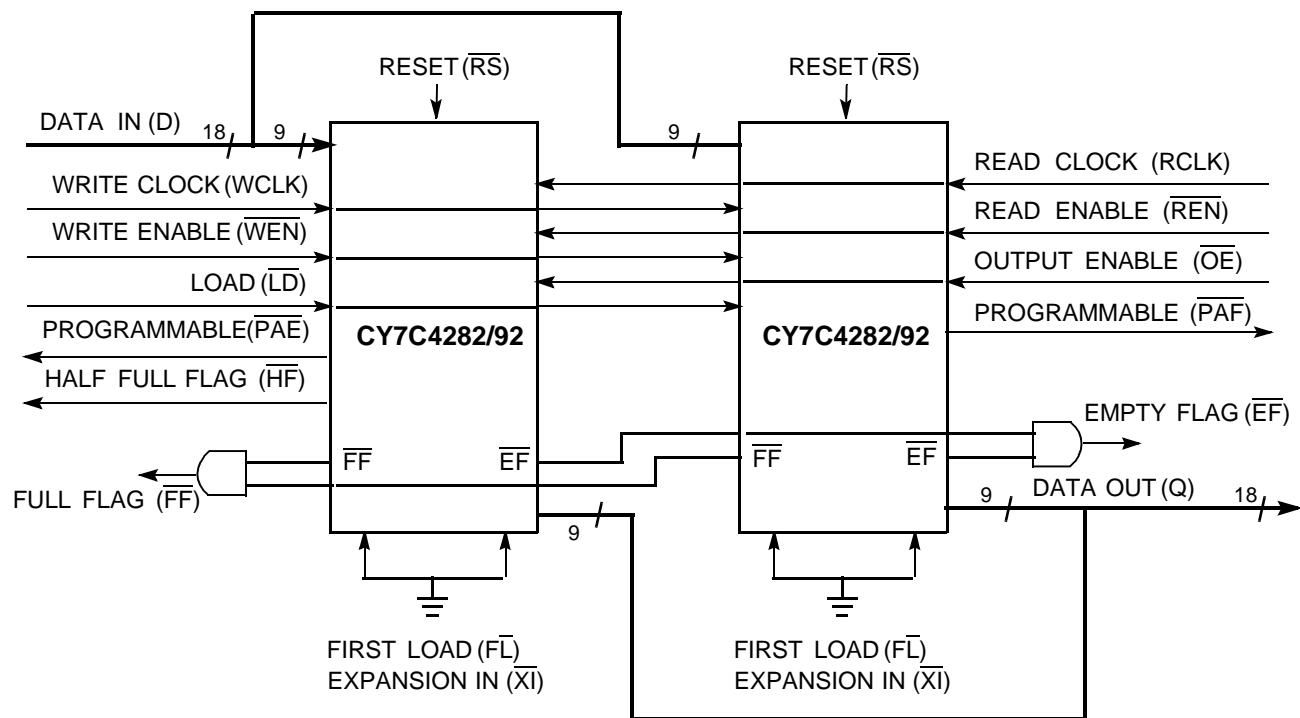

Figure 2. Block Diagram of 64K x 9/128K x 9 1M Deep Sync FIFO Memory Used in a Width Expansion Configuration
Word width may be increased simply by connecting the corresponding input controls signals of multiple devices. A composite flag should be created for each of the end-point status flags (EF and FF). The partial status flags (PAE and PAF) can be detected from any one device. *Figure 2* demonstrates a 18-bit word width by using two CY7C4282/92. Any word width can be attained by adding additional CY7C4282/92.
When the CY7C4282/92 is in a Width-Expansion Configuration, the Read Enable (REN) control input can be grounded (see *Figure 2*). In this configuration, the Load (LD) pin is set to LOW at Reset so that the pin operates as a control to load and read the programmable flag offsets.